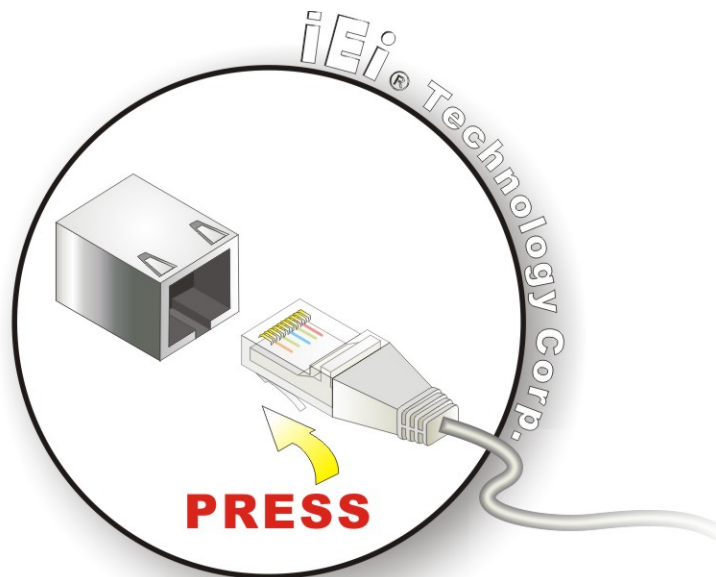

Figure 4-15: LAN Connection
Step 2: Align the connectors. Align the RJ-45 connector on the LAN cable with one of the RJ-45 connectors on the bottom panel of the AFL2-12A-HM65. See **Figure 4-15**.